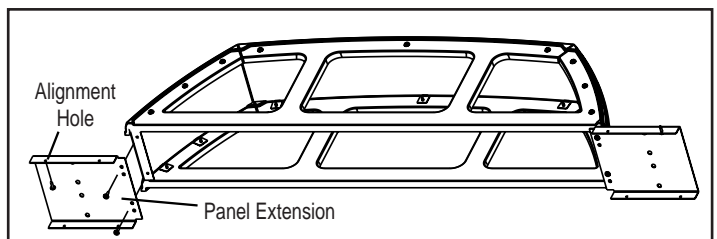

Figure 33.5
6. Attach the hearth support's panel extensions. **Figure 33.5**